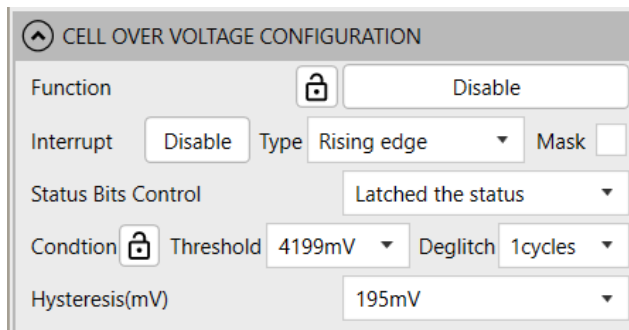

Figure 22: Cell OV Configuration
17. Figure 22 shows how to configure the cell over-voltage (OV) parameters.